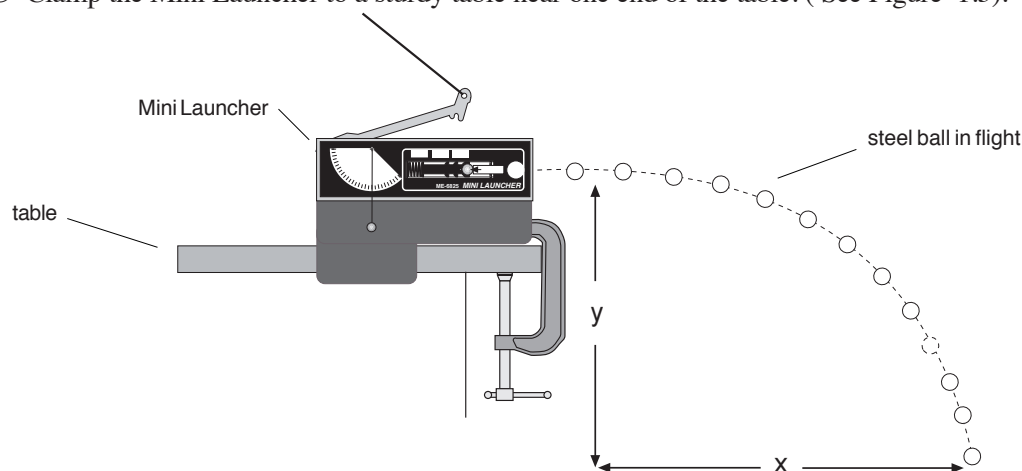

Figure 1.3. Setup for Part I: Determining V_0 , method 1
- ① Clamp the Mini Launcher to a sturdy table near one end of the table. (See Figure 1.3).